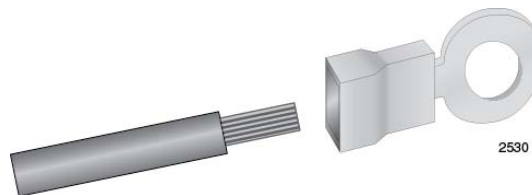

Figure 53. Attaching the Stranded Grounding Wire to the Grounding Terminal
2. Insert the grounding wire into the grounding terminal provided with the power supply and use a crimping tool to secure it to the grounding terminal. See Figure 53,